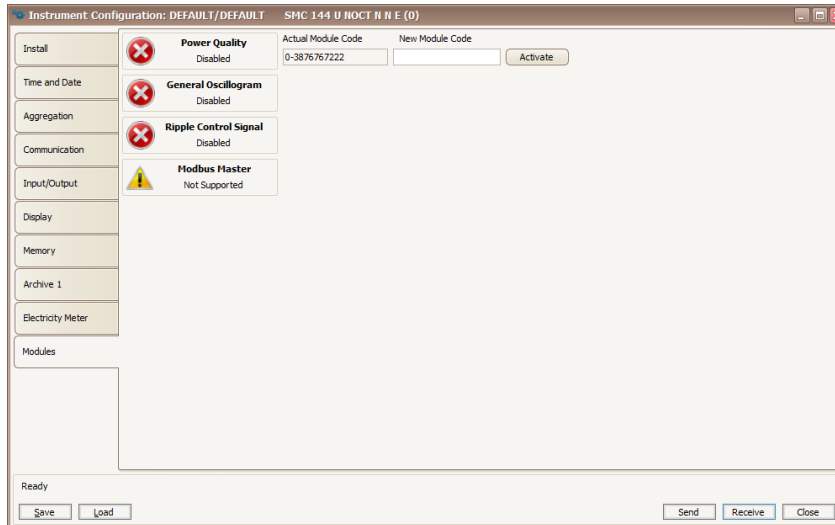

Figure 16: ENVIS.Daq - activation and deactivation of the supported special firmware options.
**Firmware Modules (fig. 16)** This tabs allows the user to activate or deactivate optional firmware modules by providing a valid activation code. State of each supported module is indicated.